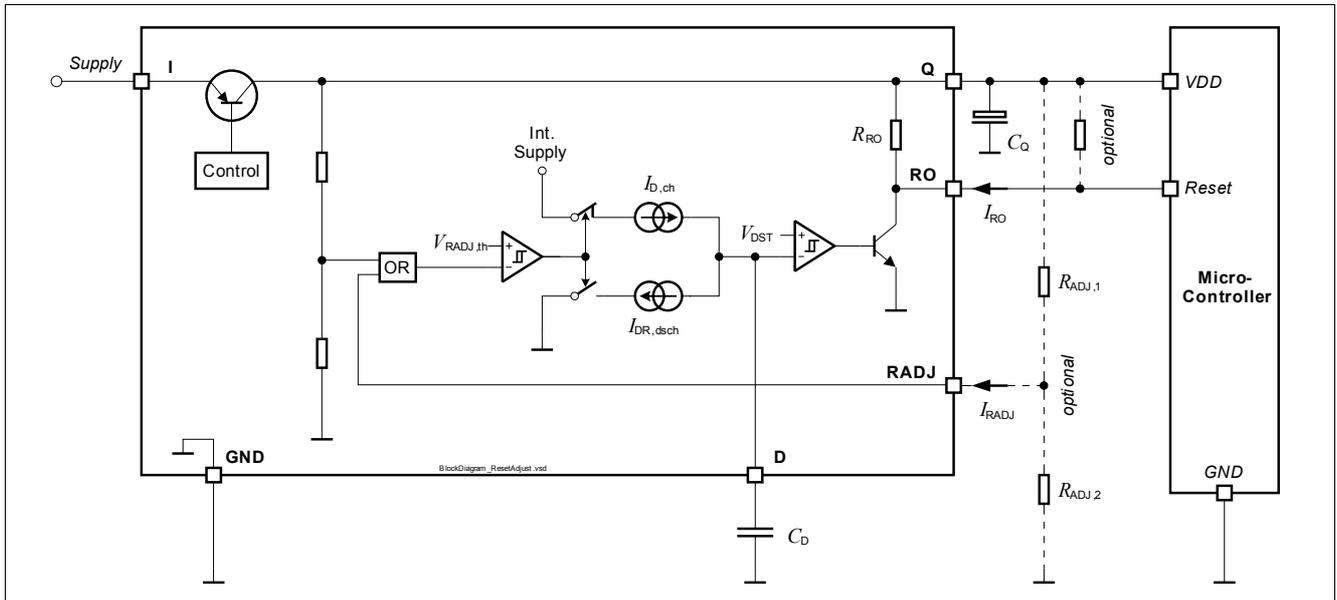

Figure 7 Block Diagram Reset Circuit
- $R_{ADJ,1}$ ,  $R_{ADJ,2}$ : Resistors of the external voltage divider, see Figure 7.
all voltages with respect to ground, direction of currents as shown in **Figure 7** (unless otherwise specified).